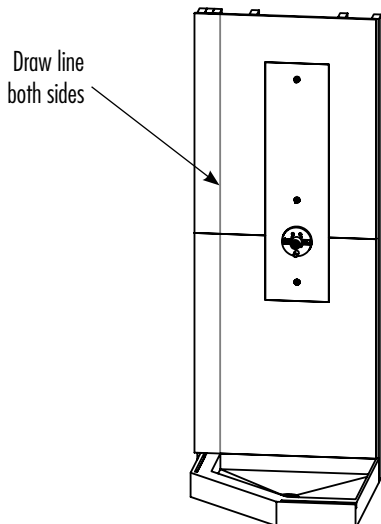

figure 18
5. Use a level to draw a straight vertical line all the way up from the inside edge of the pan on both sides (*fig. 18*). This line will be used as a guide for the placement of the wall panels and thresholds.
3. Remember to use the line drawn in (fig. 18). Finish all bottom panels.